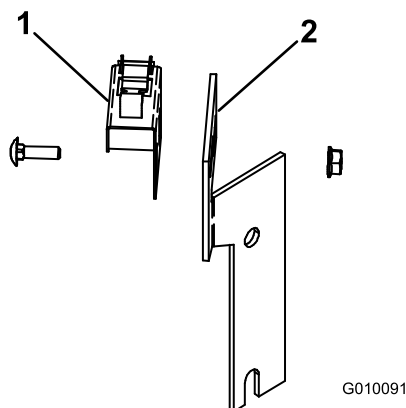

Figure 2
7. Loosely secure the micro switch to the switch bracket with (2) #10 x 3/4 inch carriage screws and flange locknuts. Position the fasteners as shown in Figure 2.